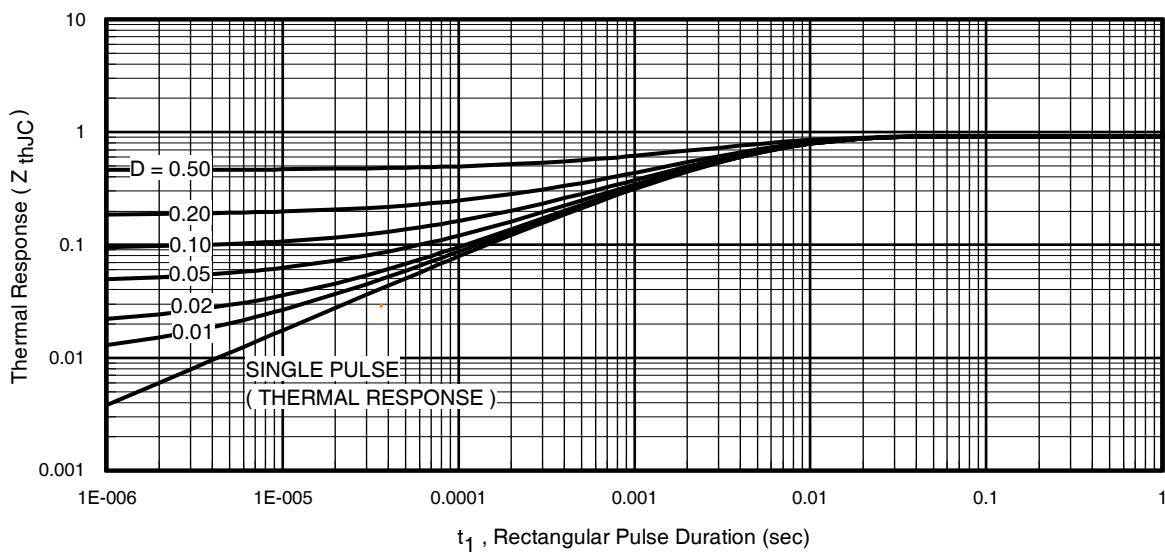
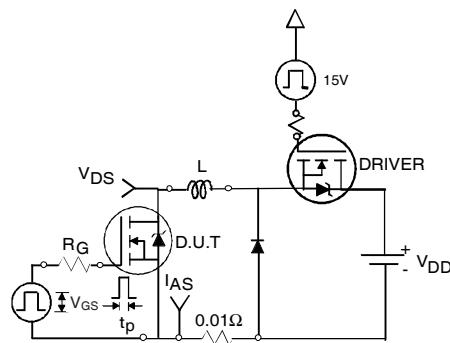

Fig 11. Maximum Effective Transient Thermal Impedance, Junction-to-Case
Fig 12a. Unclamped Inductive Test Circuit
| I_{AR} | Avalanche Current ① | See Fig.12a,12b,15,16 | A |
- ① Repetitive rating; pulse width limited by max. junction temperature. (See fig. 11).
- ② Limited by $T_{J\text{max}}$, starting $T_J = 25^\circ\text{C}$, $L = 0.27\text{mH}$, $R_G = 25\Omega$, $I_{AS} = 35\text{A}$, $V_{GS} = 10V$. Part not recommended for use above this value.
- ③ $I_{SD} \leq 35\text{A}$, $di/dt \leq 380\text{A}/\mu\text{s}$, $V_{DD} \leq V_{(\text{BR})\text{DSS}}$, $T_J \leq 175^\circ\text{C}$.
- ④ Pulse width $\leq 1.0\text{ms}$; duty cycle $\leq 2\%$.
- ⑤ $C_{oss \text{ eff.}}$ is a fixed capacitance that gives the same charging time as C_{oss} while V_{DS} is rising from 0 to 80% V_{DSS} .
- ⑥ Limited by $T_{J\text{max}}$, see Fig.12a, 12b, 15, 16 for typical repetitive avalanche performance.
- ⑦ This value determined from sample failure population. 100% tested to this value in production.
- ⑧ This is applied to D²Pak, when mounted on 1" square PCB (FR-4 or G-10 Material). For recommended footprint and soldering techniques refer to application note #AN-994.
3. Equation below based on circuit and waveforms shown in Figures 12a, 12b.
- $Z_{thJC}(D, t_{av})$ = Transient thermal resistance, see figure 11)